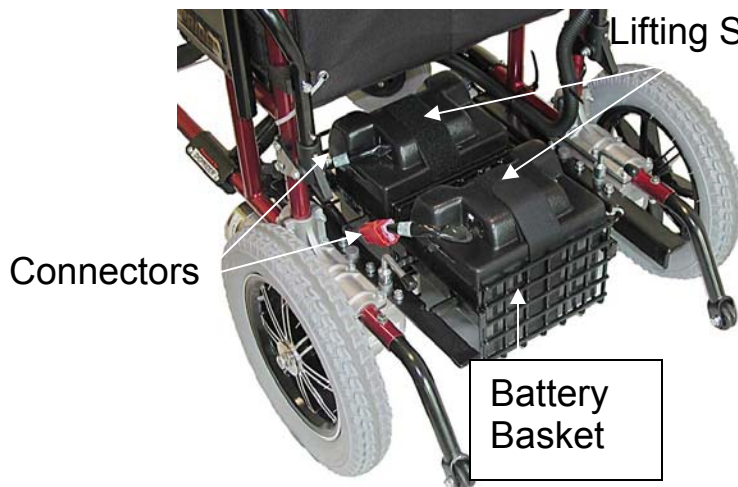

Figure 7
4. Disconnect the black and red connectors situated under the seat (Figure 7).